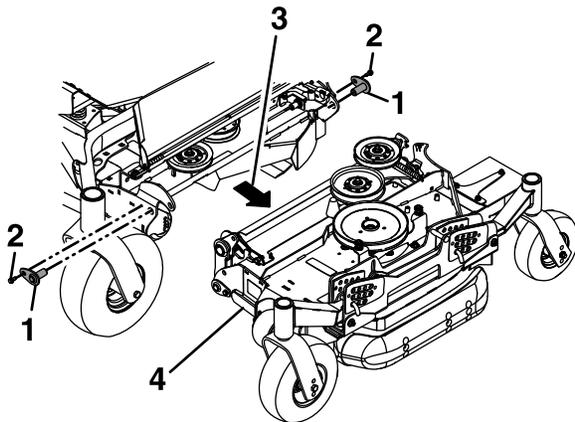

Figure 86
- 12. Remove and retain the bolts that secure the upper pivot pins to the deck and then remove the pivot pins (Figure 86).
- 13. Pull the wing deck outward to separate it from the center deck section (Figure 86).
Align and install the upper pivot deck pins in the front and rear of the deck and secure it using the previously removed bolts (Figure 86).